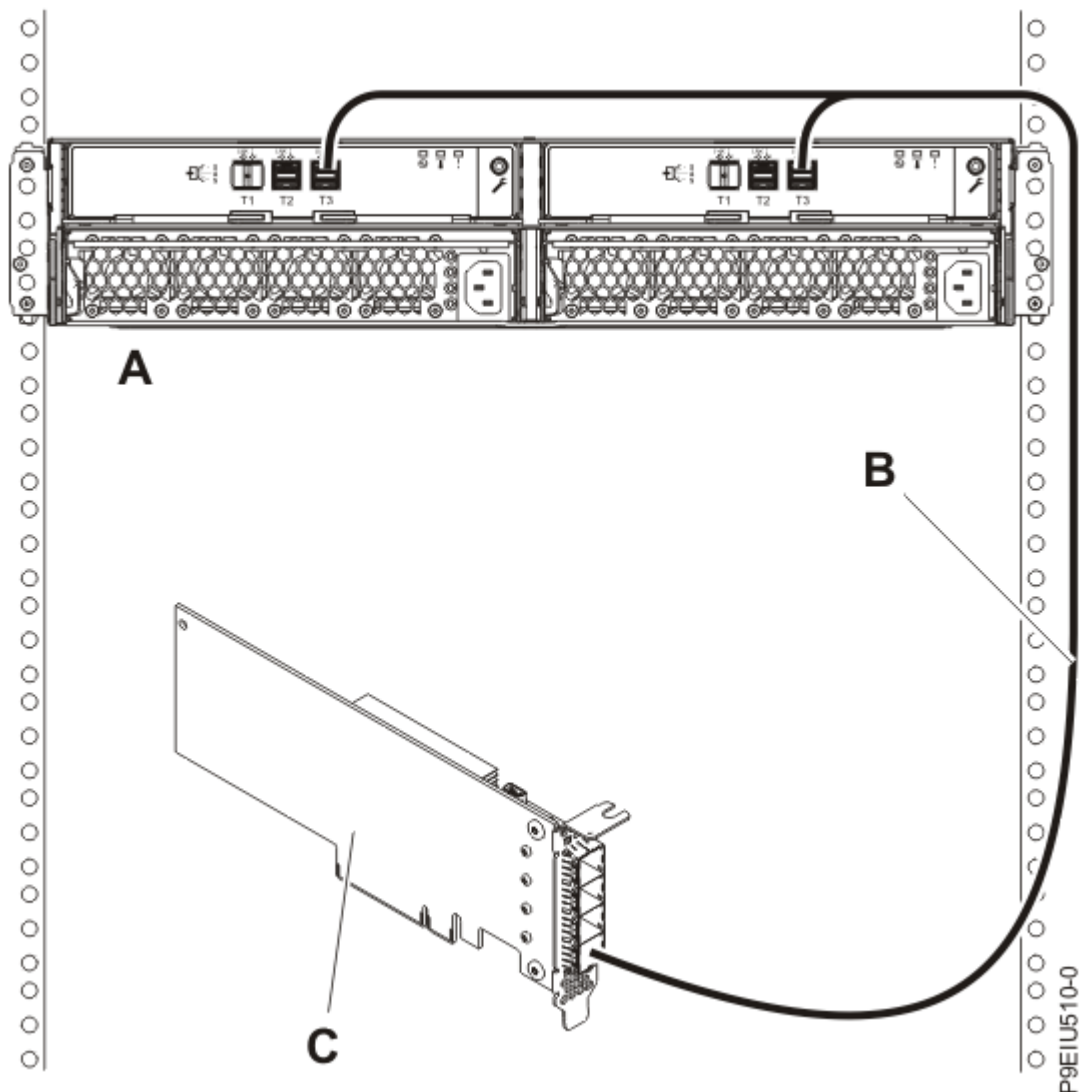

Figure 13: Mode 1 connection of one ESLL or ESLS storage enclosure by using a YO12 cable to a single FC EJ0J, FC EJ0K, or FC EJ0M SAS adapter
13. Then, complete a mode 1 connection of one enclosure **(A)** by using a YO12 cable **(B)** to a single FC EJ0J, FC EJ0K, or FC EJ0M SAS adapter **(C)**, as shown in Figure 13 on page 18 and then continue with “Connecting cables, power cords, and installing covers” on page 29.